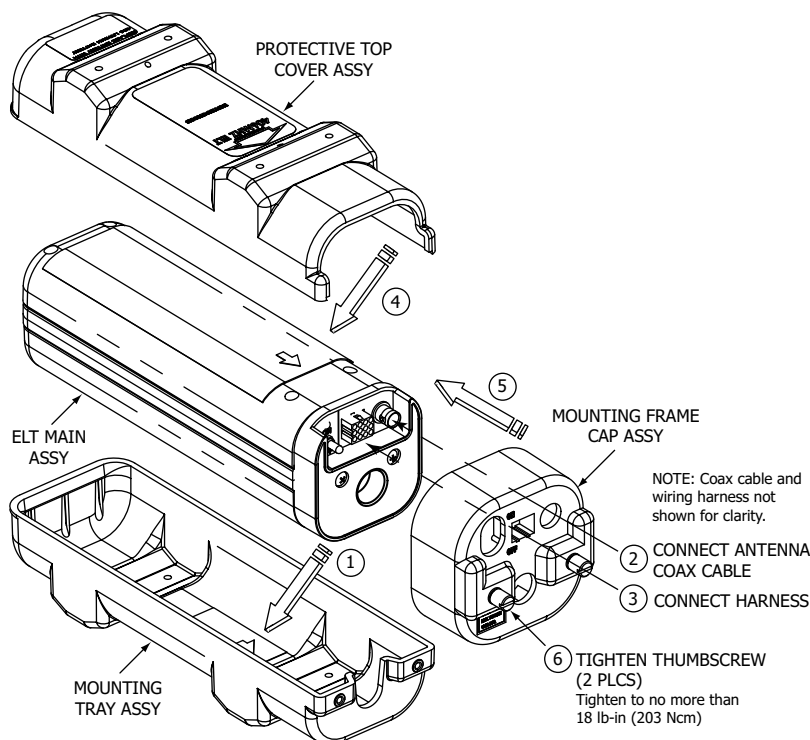

Figure 23. ELT Installation Sequence
- (1) See "Figure 23. ELT Installation Sequence".